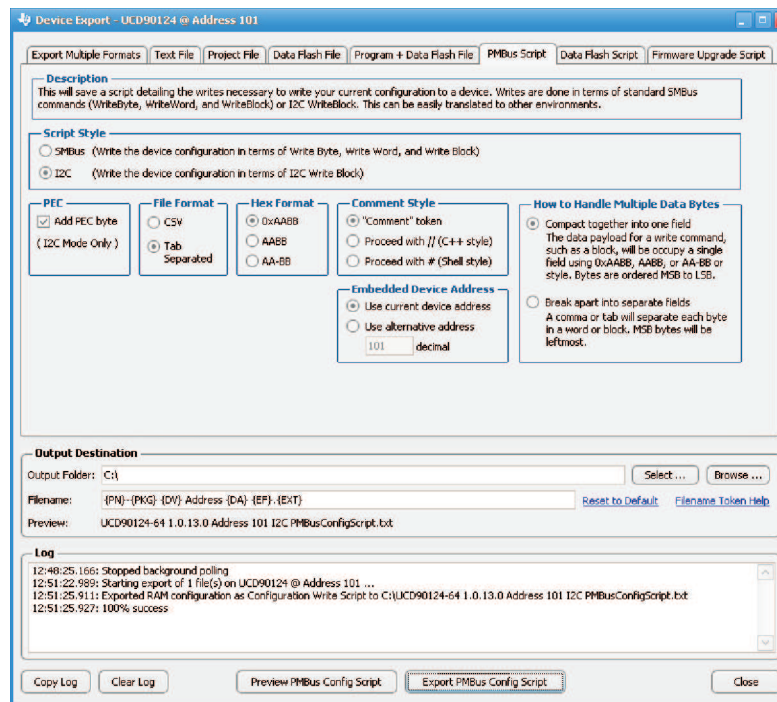

Figure 25. Fusion GUI PMBus Configuration Script Export Tool
2. The *Fusion GUI* (Figure 25) can create a PMBus or I²C command script file that can be used by the I²C master to configure the device.